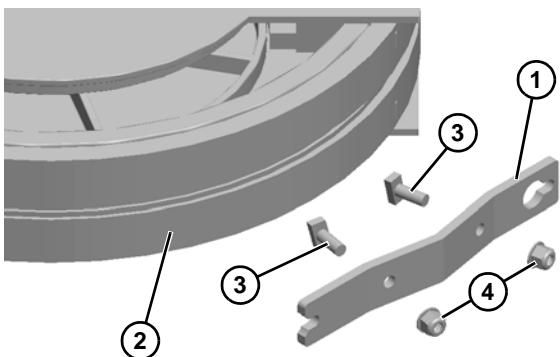

Figure 46
3. Install tie bar (**Figure 46, item 1**) to curved conveyor section (**Figure 46, item 2**) with two M8 x 20 mm studs (**Figure 46, item 3**) and hex nuts (**Figure 46, item 4**).